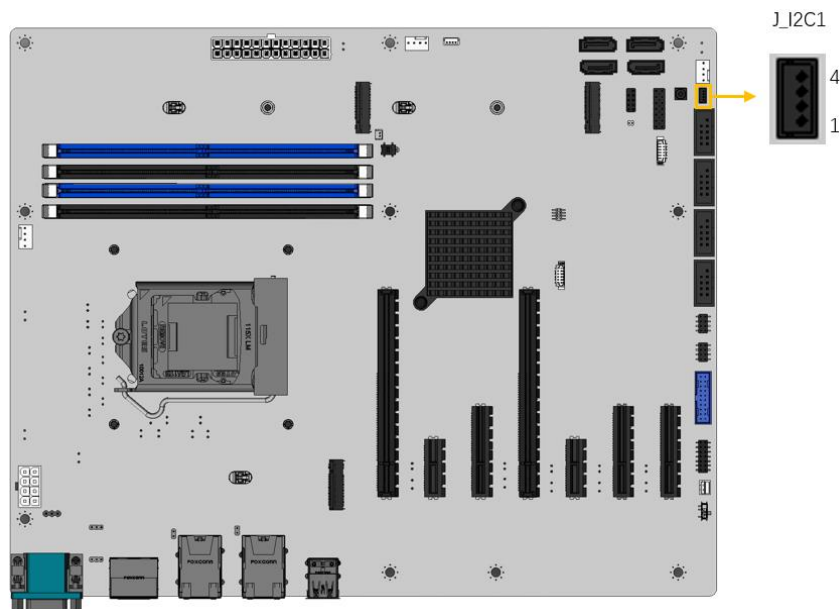

Figure 3-15: I²C Connector Location
- CN Location:** See Figure 3-15